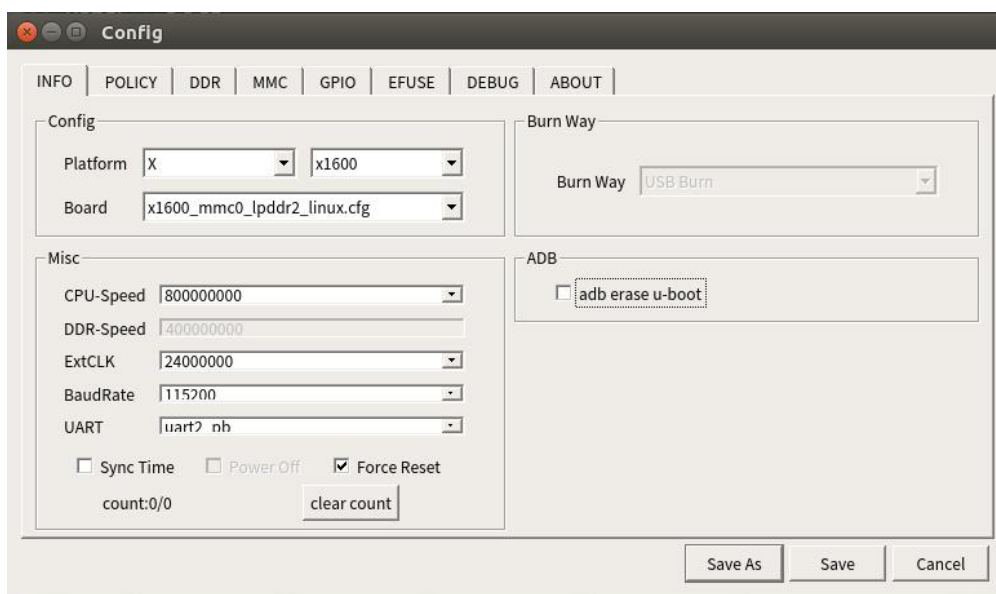

Figure 4-8
- 1、For the configuration of basic information, click INFO to enter the basic configuration information, select x1600 for the platform and **x1600_mmc_lpddr2_linux.cfg** for the board level, see Figure 4-8 for details.